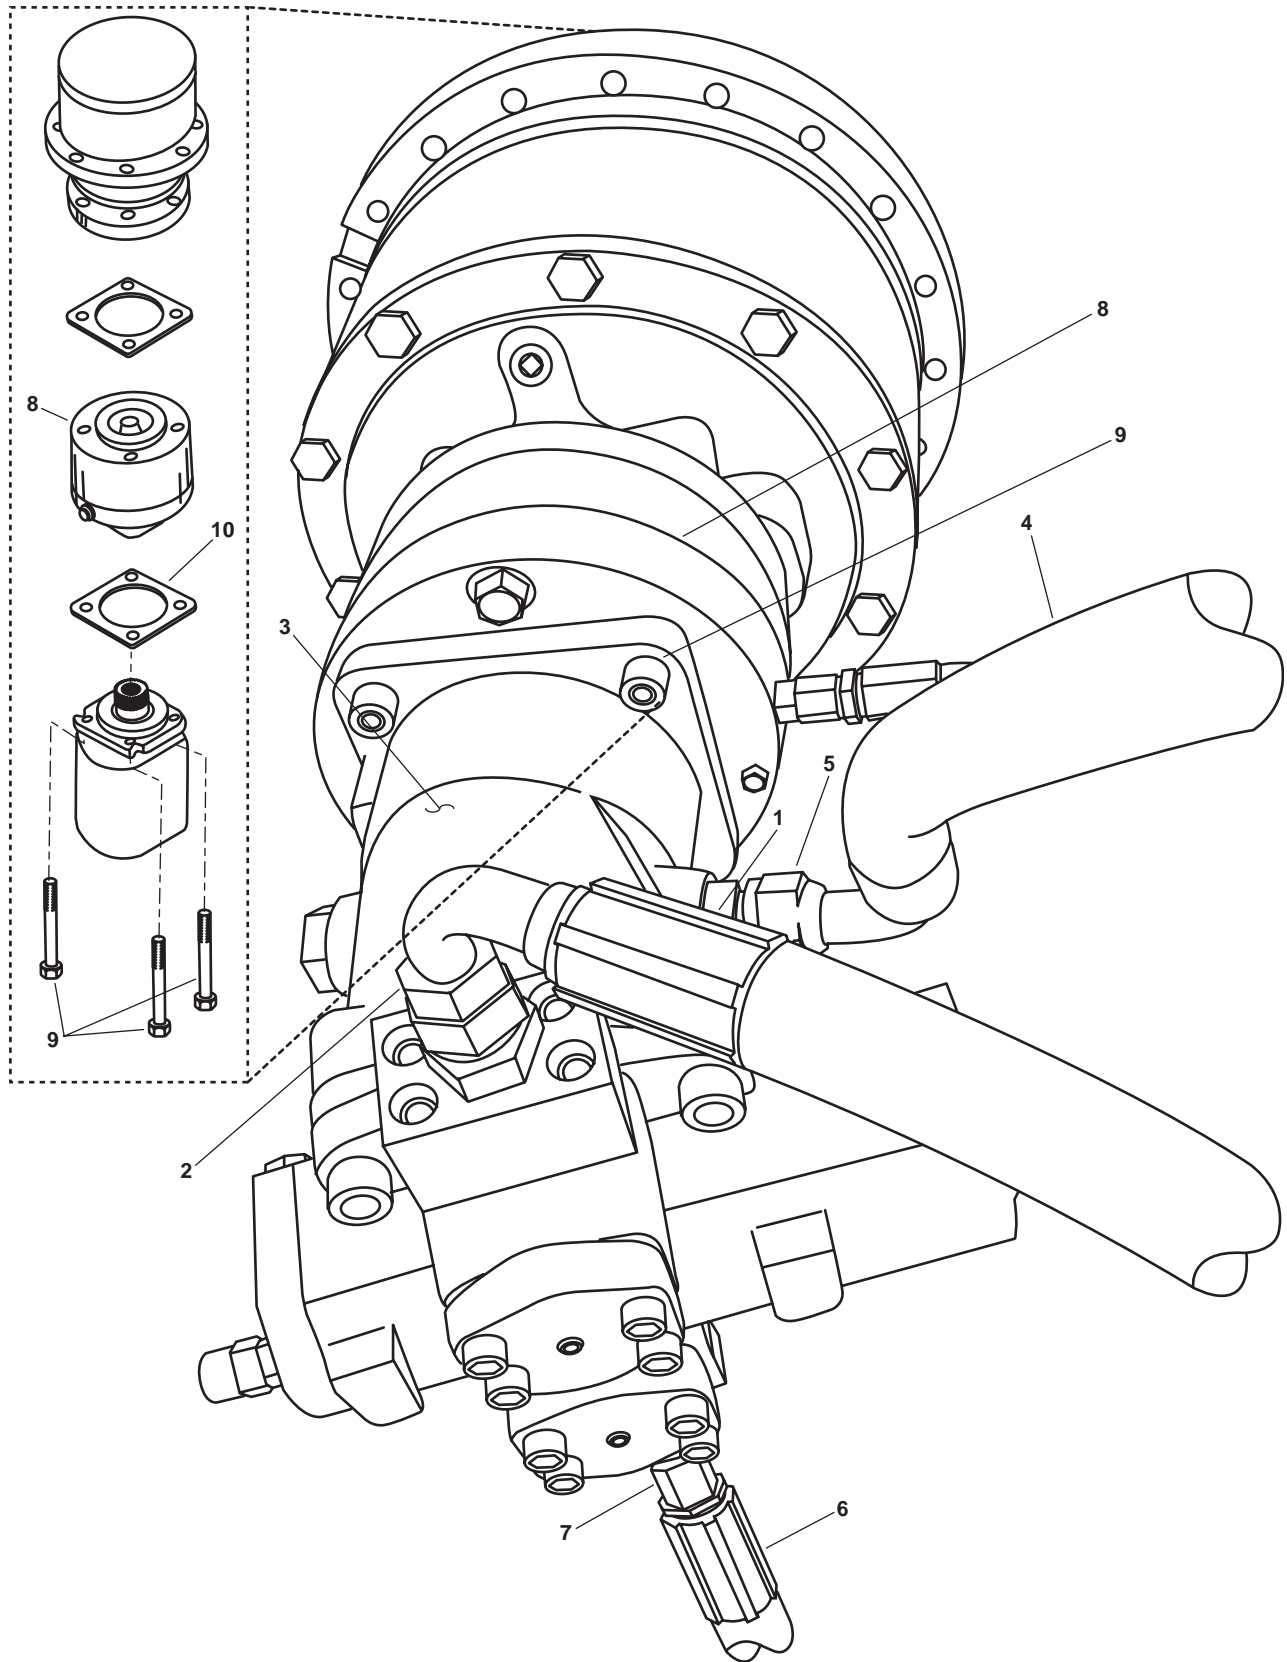

Figure 1. Capstan, Hydraulic Motor
1. Slowly loosen the PORT A hydraulic hose (figure 1, item 1) by turning the PORT A hydraulic hose fitting (figure 1, item 2) to release the system hydraulic pressure. Do not remove the PORT A hydraulic hose until all hydraulic pressure has been released from the hose.
2. Remove the PORT A hydraulic hose (figure 1, item 1) from the hydraulic motor (figure 1, item 3).
3. Drain the PORT A hydraulic hose (figure 1, item 1) into a suitable drain pan. Place an identification tag or label on the hydraulic hose. Cover the hydraulic hose with a clean rag to prevent foreign material from entering the hydraulic system.
4. Slowly loosen the PORT B hydraulic hose (figure 1, item 4) by turning the PORT B hydraulic hose fitting (figure 1, item 5) to release the system hydraulic pressure. Do not remove the PORT B hydraulic hose until all hydraulic pressure has been released from the hose.
5. Remove the PORT B hydraulic hose (figure 1, item 4) from the hydraulic motor (figure 1, item 3).
6. Drain the PORT B hydraulic hose (figure 1, item 4) into a suitable drain pan. Place an identification tag or label on the hydraulic hose. Cover the hydraulic hose with a clean rag to prevent foreign material from entering the hydraulic system.
7. Slowly loosen the case drain hydraulic hose (figure 1, item 6) by turning the case drain hydraulic hose fitting (figure 1, item 7) counterclockwise to release the system hydraulic pressure. Do not remove the case drain hydraulic hose until all hydraulic pressure has been released from the hose.
8. Remove the case drain hydraulic hose (figure 1, item 6) from the hydraulic motor (figure 1, item 3).
9. Drain the case drain hydraulic hose (figure 1, item 6) into a suitable drain pan. Place an identification tag or label on the hydraulic hose. Cover the hydraulic hose with a clean rag to prevent foreign material from entering the hydraulic system.
10. With two crewmembers holding the hydraulic motor (figure 1, item 3) and the hydraulic disc brake (figure 1, item 8), remove the four bolts (figure 1, item 9) from the hydraulic motor (figure 1, item 3).
11. Remove the hydraulic motor (figure 1, item 3) from the hydraulic disc brake (figure 1, item 8) by pulling it straight down.
12. Remove the gasket (figure 1, item 10) from the hydraulic disc brake (figure 1, item 8). Discard the gasket.
1. Install a new gasket (figure 1, item 10) on the hydraulic disc brake (figure 1, item 8).
2. Install the hydraulic motor (figure 1, item 3) onto the hydraulic disc brake (figure 1, item 8) ensuring that proper spline shaft alignment is obtained.
Do not use the bolts (figure 1, item 9) to force the hydraulic motor (figure 1, item 3) and the hydraulic disc brake (figure 1, item 8) together. Failure to comply will result in damage to the equipment.
3. Install the four bolts (figure 1, item 9) into the hydraulic motor (figure 1, item 3). Turn the bolts alternately until snug to prevent binding.
4. Tighten the four bolts (figure 1, item 9) using a torque wrench to 75-85 lb-ft (102-115 Nm).